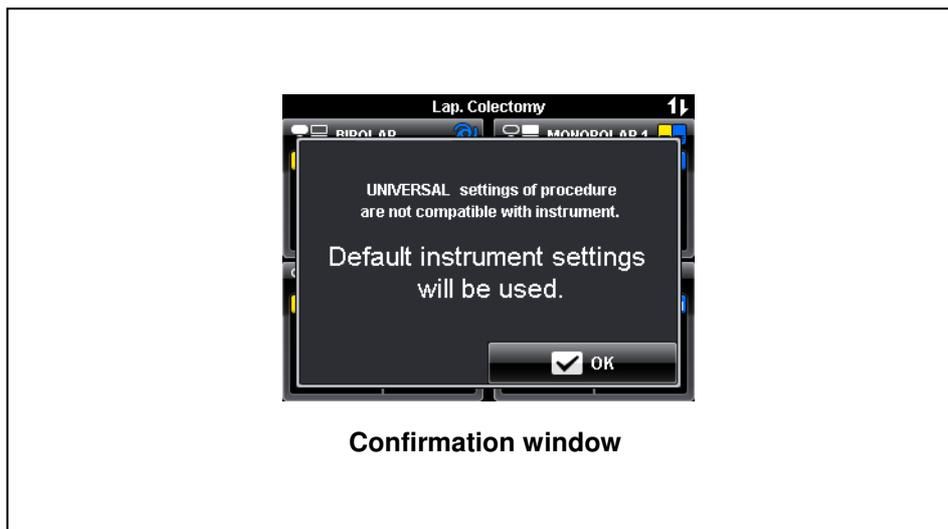

Figure 5.6
- If a procedure will be selected from the “Select Procedure screen” and at least one of the stored procedure settings are out of range of the allowed Olympus HF instrument settings, a confirmation window according to figure 5.6 will appear. Press the “OK button” to continue. The default instrument settings will be taken and the display returns to the “All screen”.